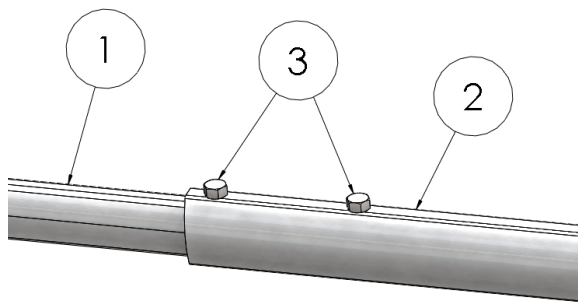

Figure 2.10
Insert arm extensions (1) into lower arms (2). Install set screws (3), but do not tighten (Figure 2.10).